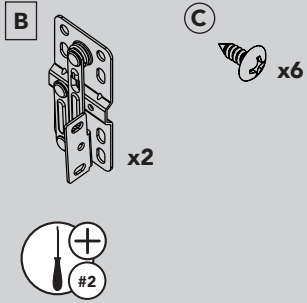

FIGURE 5A
Using the (4) provided #8x1/2" screws, attach your hinge(s) to the panel(s) as shown. Then use (2) of the same screws to screw into the door panel where the tip-out tray will attach. Do not screw in all the way as you will want a little room behind the screw head so the trays slide down into the keyhole (See Figure 5A - 5C).